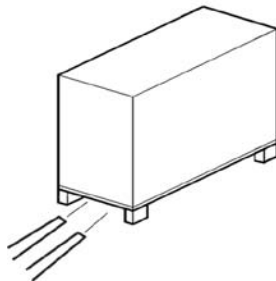

Fig. 21: Transportation with a fork lift
1. Drive the fork lift with the forks as shown in Fig. 21.